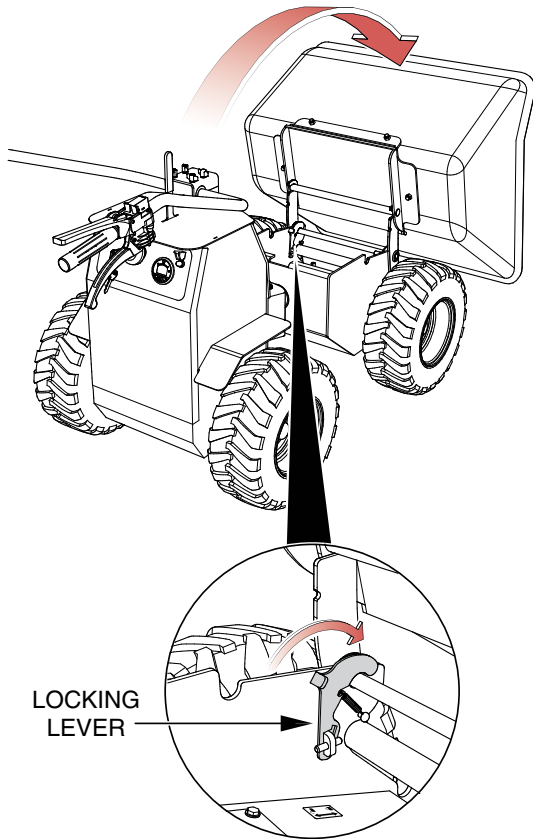

Figure 30. Locking Levers (Lock)
5. Tilt the tub into its discharge position and place both locking levers in the **lock** position (Figure 30).